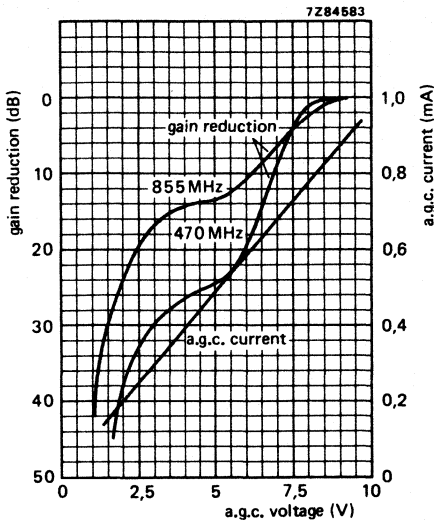

Fig. 5.
A.G.C. voltage (Fig. 5), at nominal gain +9,2  $\pm$  0,5 V
**A.G.C. current (Fig. 5)**